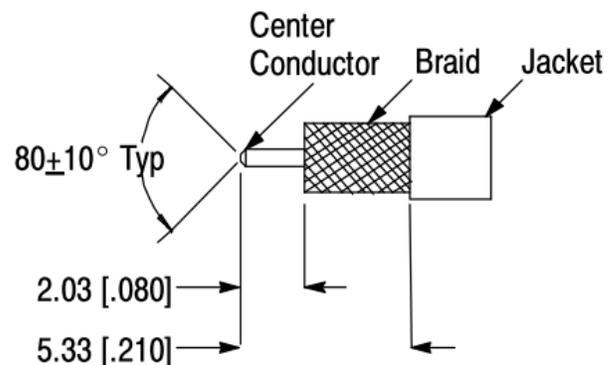

Figure 2: Coaxial Cable Stripping Dimensions
- Strip the cable to the dimensions shown in Figure 2.
- Shape the blunt end of the center conductor to a cone between 70° and 90°. See Figure 2.